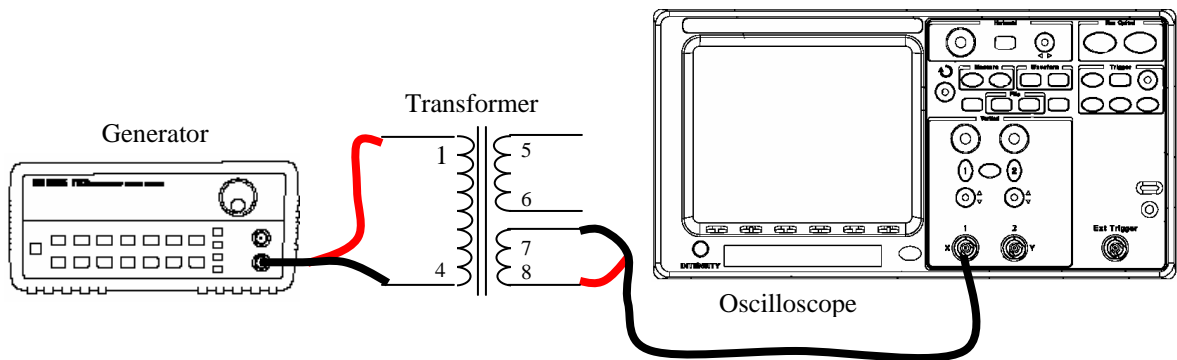

Figure 3
- Connect the generator to terminals 1-4 of the transformer and the oscilloscope to terminals 7-8 (or 5-6), as shown in Figure 3.
- Complete the structure of Fig 3. Adjust the generator for a sinusoidal signal of 1 Volt and 60 Hz.